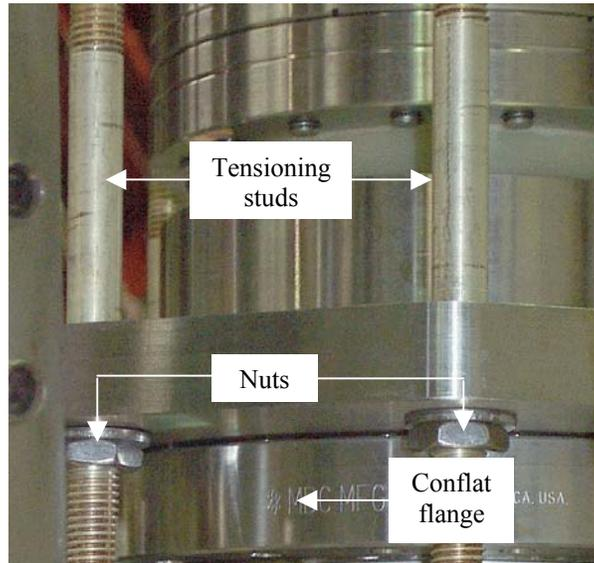

Figure 1.22 Holding the power lead in place using the tensioning studs.
- 1.22 Raise the nuts on the tensioning studs to hold the lead in place, as shown in Figure 1.22.